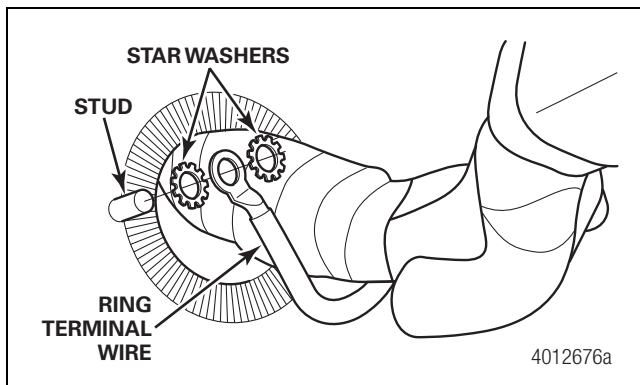

Figure 8
7. Add a 5/16" star washer to each side of the ring terminal wire and place the star washers and ring terminal wire over the left stud. Figure 8.